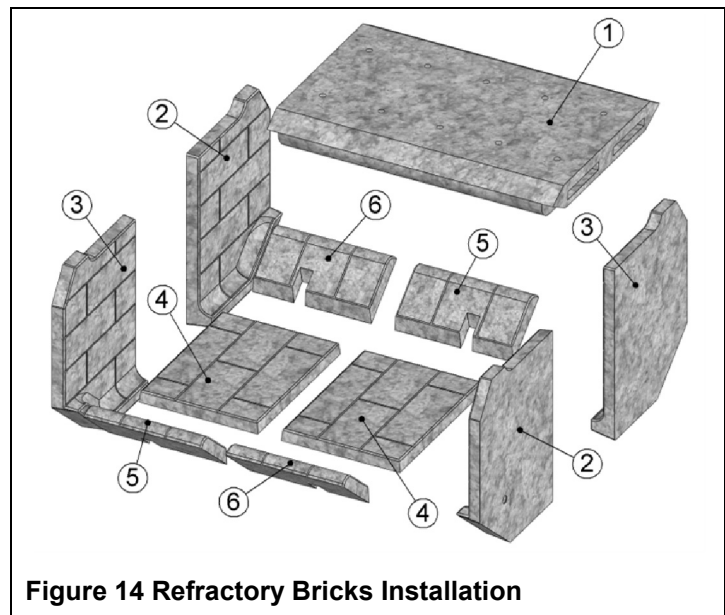

Figure 14 Refractory Bricks Installation
The refractory bricks for the FOCUS ST fireplace are placed in the firebox at the factory. If, for any reason, they should need to be replaced, the following order should be observed (see Figure 14). To remove any of the refractory bricks, just follow the installation procedure in the reverse sequence. Refer to Figure 14 to adequately identify which refractory brick is the right and which is the left at each step of the installation.
1. Insert the baffle (1) into the firebox. The baffle is quite heavy and must be lifted to the top of the firebox. A small jack or 2"x4" lengths can be used to hold it at the top of the firebox temporarily. Make sure to orient the baffle correctly. The side with the most holes should point towards the floor of the fireplace.
2. While supporting the baffle as high as it will go, place the left and right side refractory bricks (both right (2) and both left (3)) as shown in Figure 14.
4. Install both bottom refractory bricks (both (4)).
5. Install the front refractory bricks (both right (6) and both left (5) as shown in Figure 14.
4. The right side refractory bricks (bricks (2) in Figure 14) already have a hole to allow the gas line through. You only need to clean out the gray sealant out of the hole on the selected installation side to be able to pass the gas line through and into the firebox.